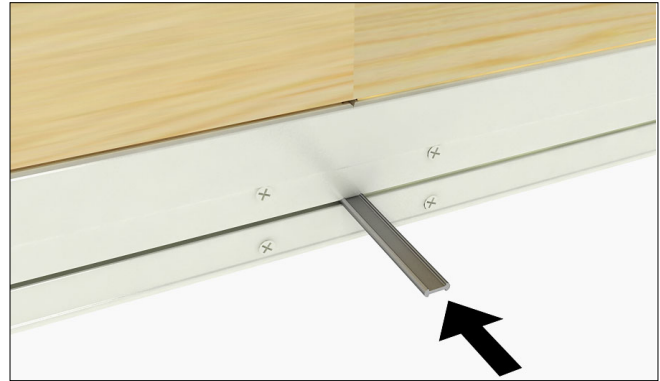

Figure 13
2. Position rectangular transom on the head jamb of door. Check to be sure that both ends of the transom sill are flush with door head jamb. Apply clamps to interior side at each end of head jamb and sill to prevent movement. Use scrap pieces of wood to prevent marring of wood surface. Make sure that nailing fin/drip cap kerfs line up on both ends. See figure 13. Drill the outer edges of mull kerf located at one side at head jamb of door and sill of transom with a 3/16" drill bit. This will help facilitate application of mulling pin. Be sure to clean fillings from the drilled area prior to mull pin installation.
3. Drive mull pin in the full length of sill/head jamb (use hammer if necessary) ensuring it is recessed 1/4" (6) to allow for sealant application later. See figure 13.